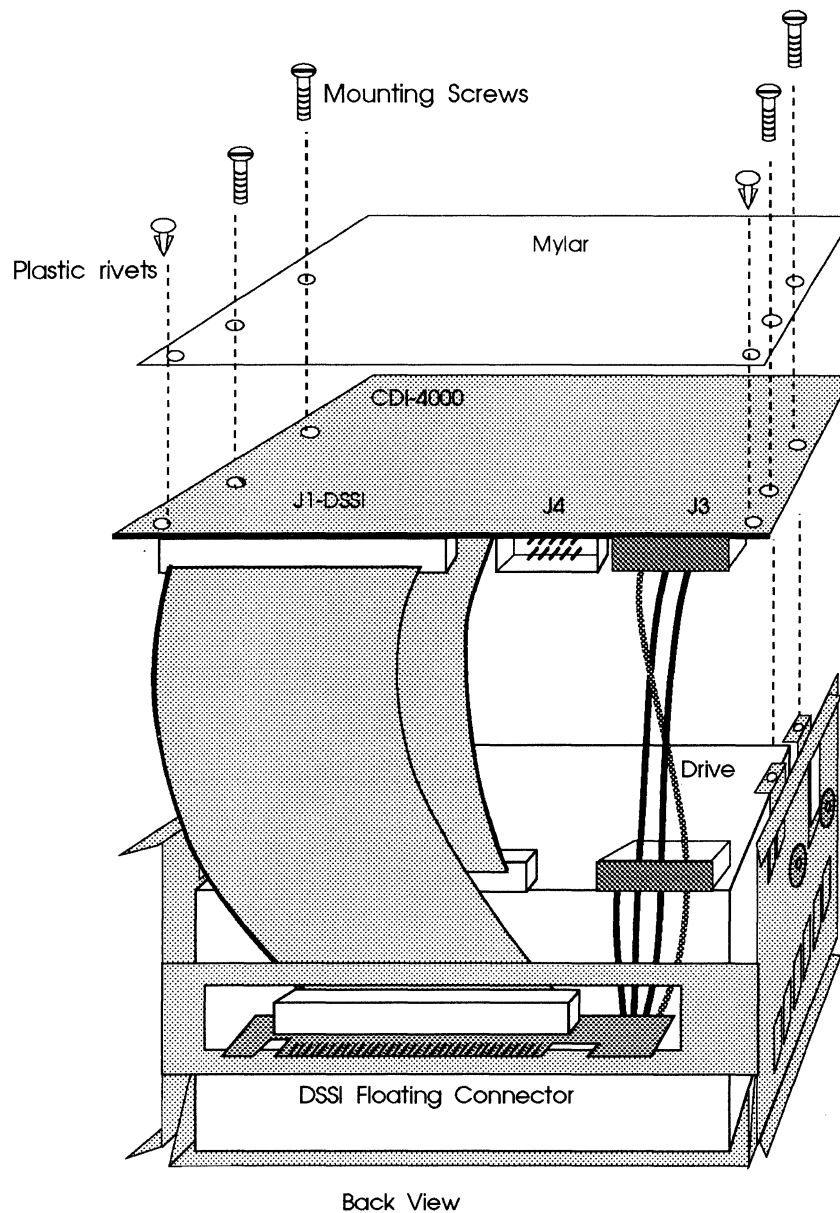

Figure 4-6: CDI-4000-SAE board and mylar installation
- 10 Place the mylar insulator on top of the CDI-4000; see Figure 4-6.
- 11 Put four screws into the ISE through the mylar insulator and the CDI-4000. Put two rivets into the CDI-4000 through the mylar; see Figure 4-6.